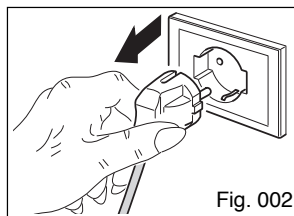

Fig. 002
- **ALWAYS unplug the appliance immediately after use (fig. 002) and before any cleaning or maintenance operations.**